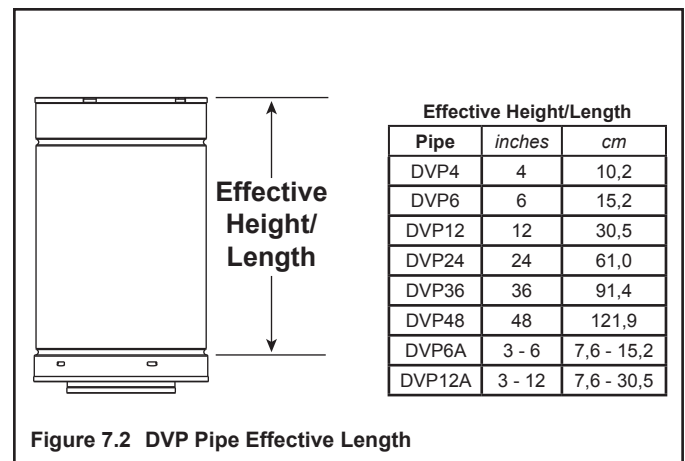

Figure 7.2 DVP Pipe Effective Length
- Pipe measurements are shown using the effective length of pipe (see Figures 7.2 and 7.3).